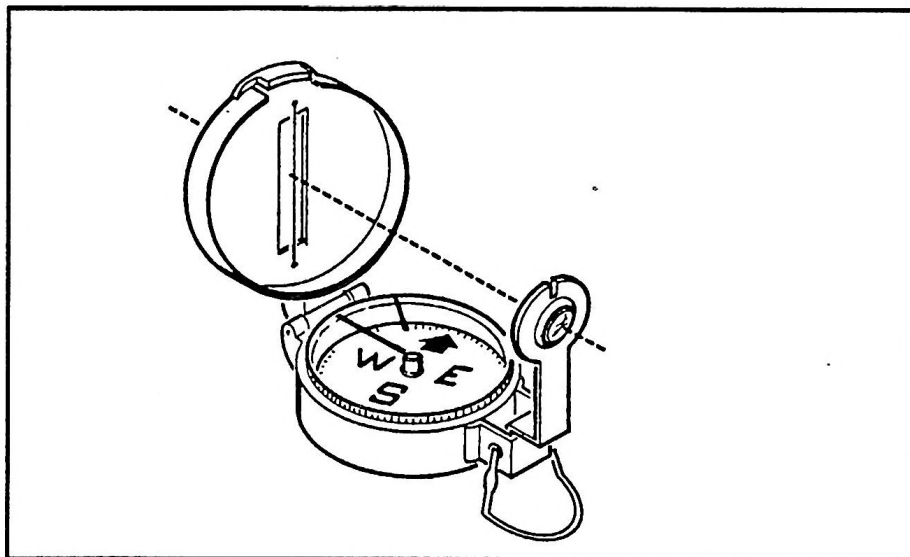

Figure 4-16. Using Compass to Determine Bearing
- b) Determine the approximate azimuth heading with a compass (example in Figure 4-16).